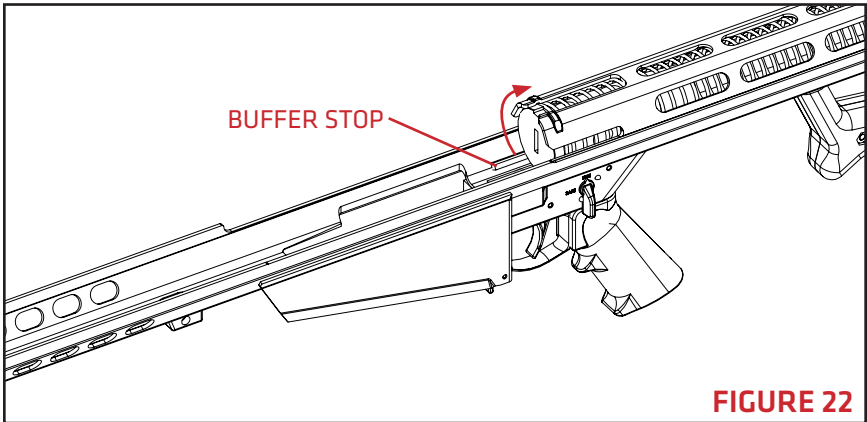

FIGURE 22
1. While maintaining constant control and pressure, rotate the buffer and spring to align the buffer notch with buffer stop on lower receiver (FIGURE 22).